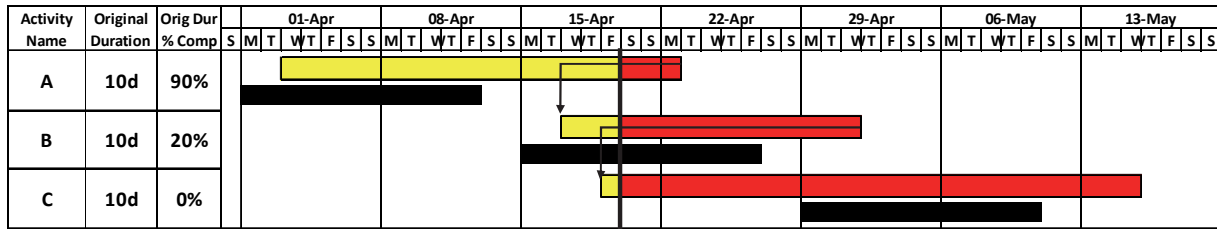

Figure 7 - Impacted with Actuals with out of sequence logic not being acknowledged and extended activity durations.
- To overcome the issue of a shorter duration schedule which invariably results from the increased, unplanned concurrency, the remaining durations may be extended so that the end dates of in-progress activities calculate with the same end date as the schedule with the out of sequence option turned on, as shown in Figure 7:
Figure 7 reveals that the extensions to remaining durations serve to override the calculations of percent duration complete for Activities B and C. This is problematic for progress reporting.